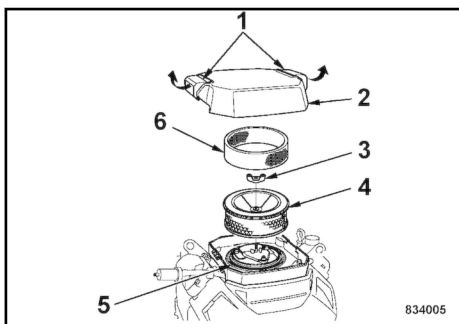

Fig. 79
Unscrew the air filter cover locking nut (1) ↪ Fig. 79 and remove the cover (2).